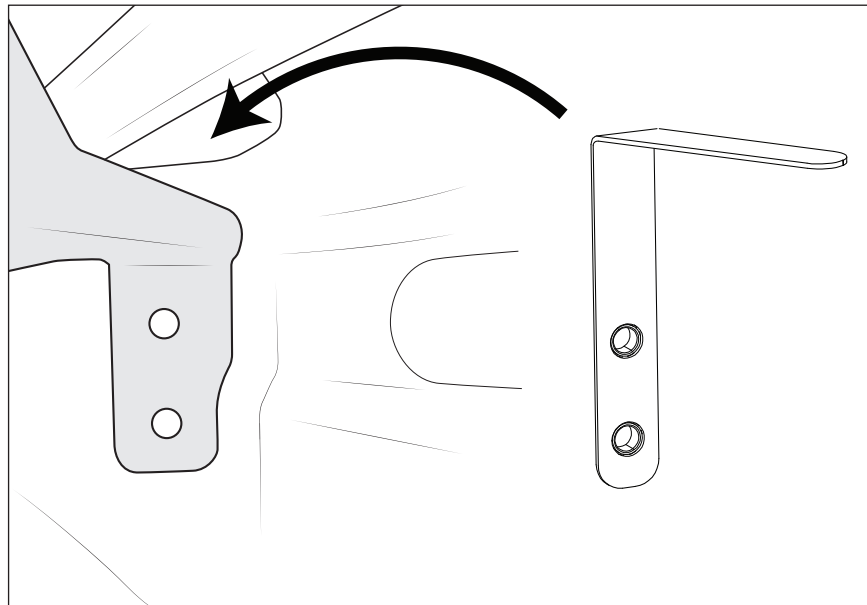

Figure 6
10. Install Bed Rail Bracket using M10 bolts and washers. Use the "J" nut plate at the front of the bedside, inserted as shown (fig. 5), and the "L" nut plate at the rear (fig. 6).